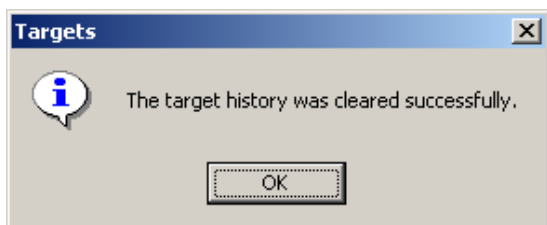

Figure 2-10 Clear Targets Dialog Screen
2. Select **Yes**. IPScom® will display the Clear Targets dialog screen (Figure 2-10).